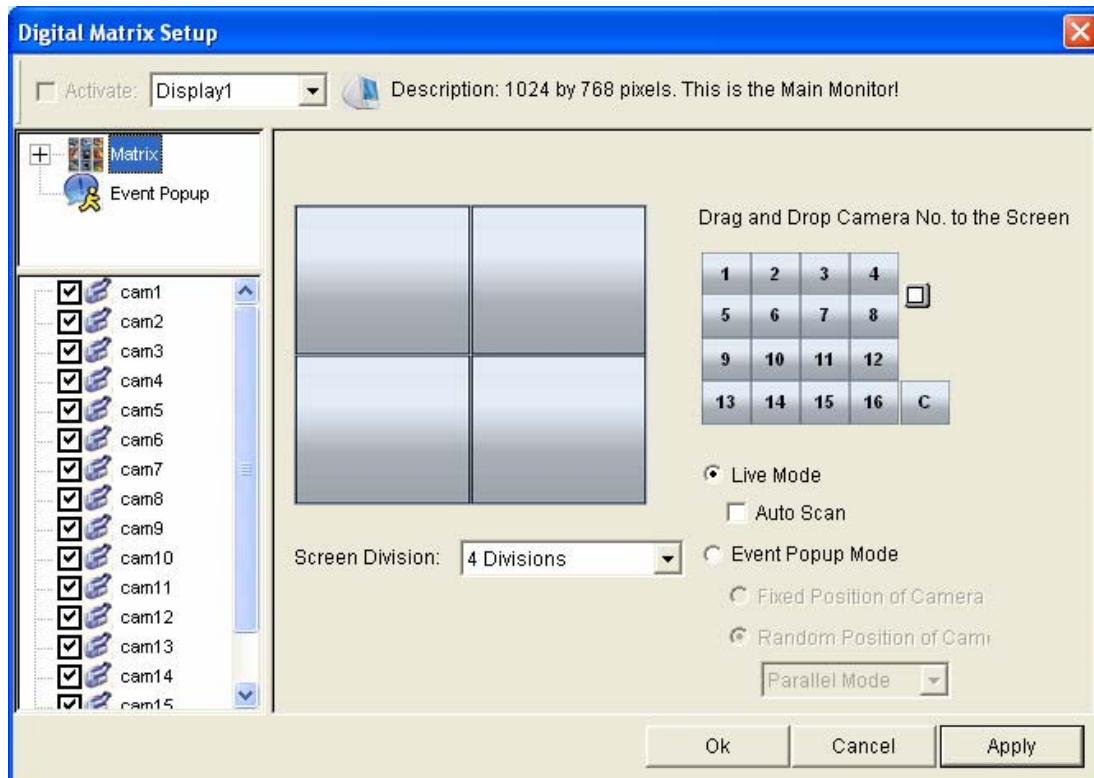

Figure 11-83
9. In the upper-left column, click the **Matrix** icon and return to Figure 11-83.
4. After above settings, click the **Matrix** icon and return to Figure 11-83.
4. Click the **Matrix** icon and return to Figure 11-83. Ensure the **Live Mode** option is selected.